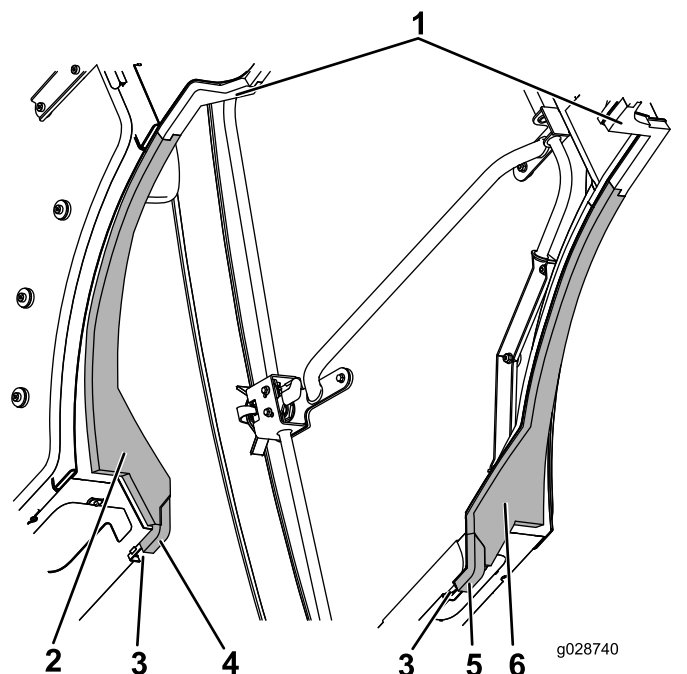

Figure 62
4. Align the innermost edges of the left tank and right tank foam seals with the left and right middle foam seal and interlock the tabs (Figure 62).
5. Press the forward edge of the left, side and right, side foam seal against the channel and interlock the angled rear edge of the foam seal with the tank foam seal (Figure 62).